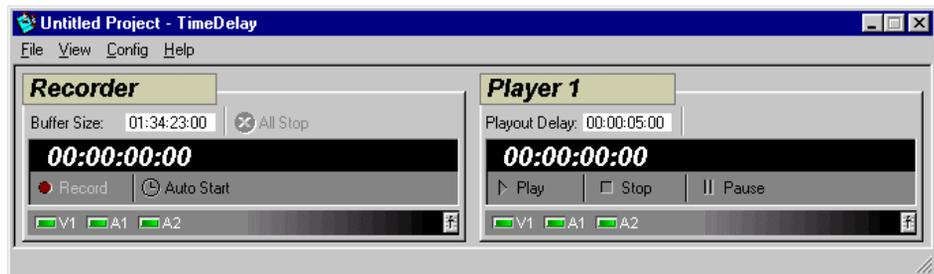

Figure 178. Two-column display
- T**wo Columns Displays the record and play panels in two columns as shown in Figure 178.